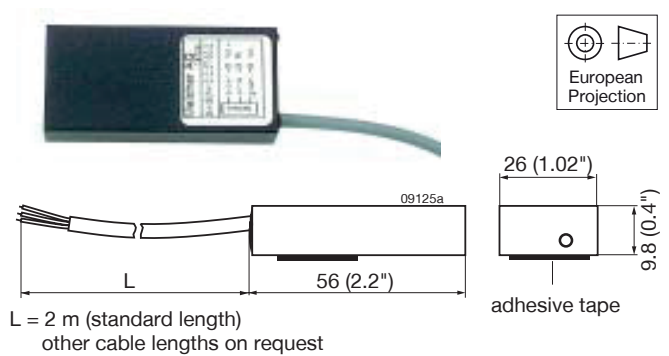

Fig. 50
- Different battery sensors S-KSMH... for using the converter as a battery charger. Different cell characteristics can be selected; see fig. 50, table 24, and *Battery Charging/ Temperature Sensors*.